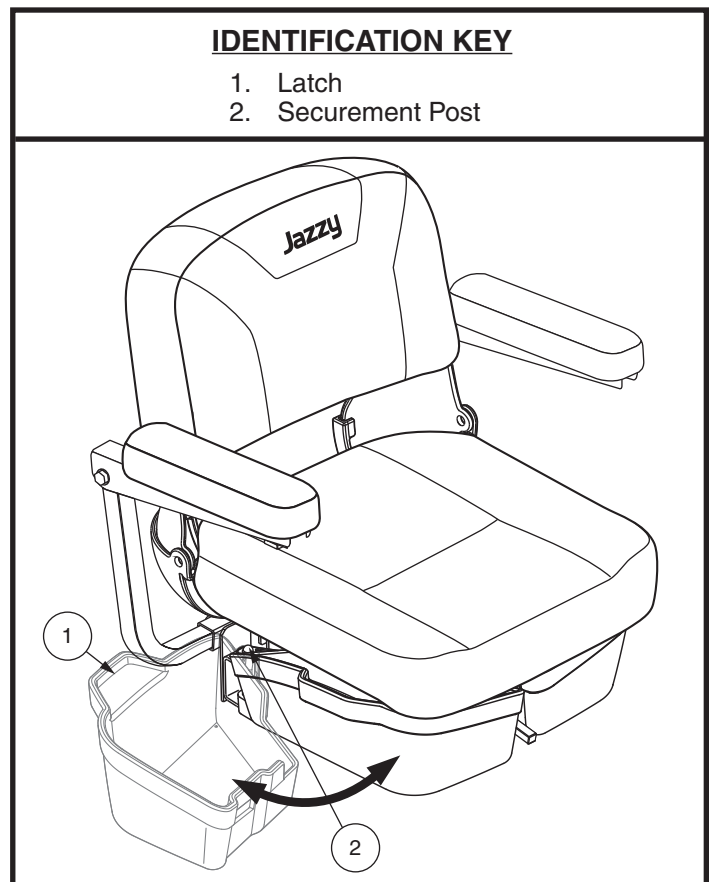

Figure 26. Under-seat Storage
1. Lift up slightly on the latch on the side of the under-seat storage bin (**see figure 26**) and swing the under-seat storage bin out and away from the Travel Scooter.
1. Lift up slightly on the latch on the side of the under-seat storage bin (**see figure 26**) and swing the under-seat storage bin out and away from the travel scooter until it is fully open.
2. If equipped, remove under-seat storage. **See Figure 26.**
7. If equipped, install under-seat storage. **See figure 26.**